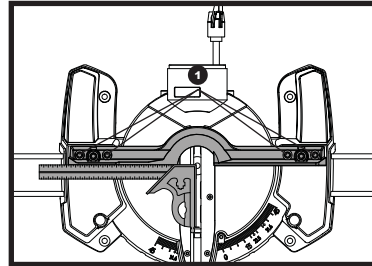
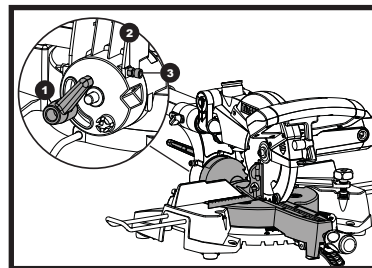

Fig 17
Fig 18
To confirm the 0° rotary table setting, set the rotary table at 0° and tighten the rotary table lock handle. Use an engineers square (not supplied) to check that the angle between the machines fence guide and the blade is 90° (see fig. 17). If the angle requires adjustment, loosen the four fence guide clamp screws (1) and align the fence guide against the engineers square. Retighten the clamp screws. Similarly check that the angle of the saw blade to the face of the table is 90° (see fig. 18). If adjustment is required, slightly loosen the bevel lock level (1) and locknut (2). Use a suitable hex key screw the 90° adjustment screw (2) clockwise or counter clockwise until correct alignment has been achieved. Retighten the locknut (2) and the bevel lock lever (1).